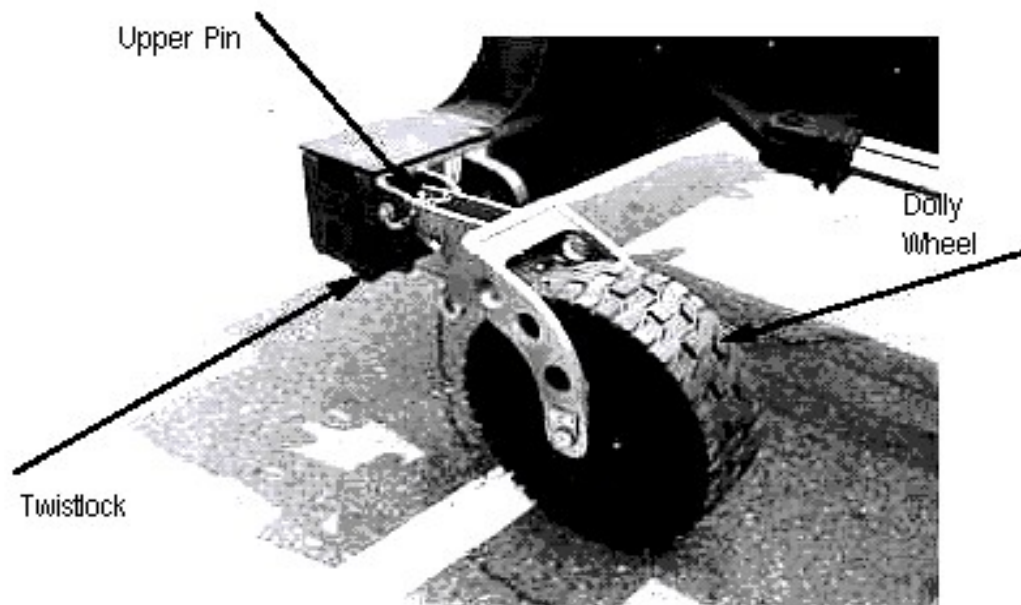

Figure 3-193
- j. Install each dolly wheel to tophandler (see Figure 3-193).